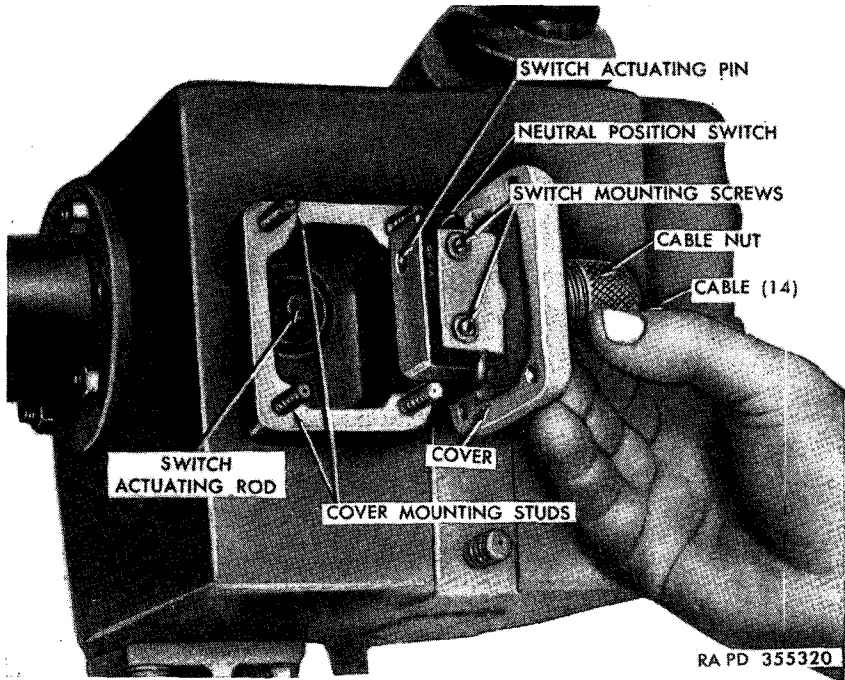

Figure 180. Neutral position switch.
d. NEUTRAL POSITION SWITCH. The neutral position switch (fig. 180) is mounted on the rear of the manual control box. It functions as a "safety switch" in that it prevents starting the main engine while the transmission is in any shift position other than neutral. Positioning the manual control lever (fig. 10) in neutral position closes the neutral position switch, which completes the circuit from the starter switch to the starter relay.
(fig. 180)
a. REMOVAL. Turn off master relay switch (fig. 18). Remove four jam nuts, nuts, and washers securing switch and cover to manual control box. Remove switch and cover from the box (fig. 180). Remove two switch mounting screws and washers holding switch to switch cover. Remove two terminal screws securing two cables (14) to switch and remove switch.
b. INSTALLATION. Install two cables (14) on switch with two terminal screws. Install switch to-switch cover with two screws and washers (fig. 180).